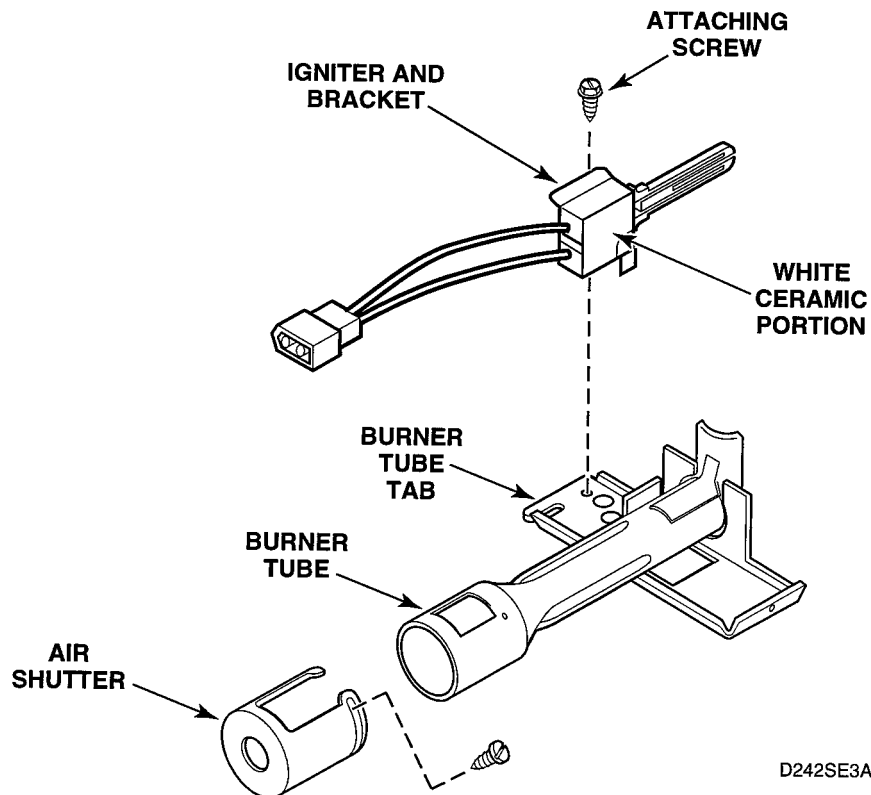

Figure 5-12
5. Remove screw holding igniter and bracket to burner tube and remove igniter and bracket. See figure 5-12.